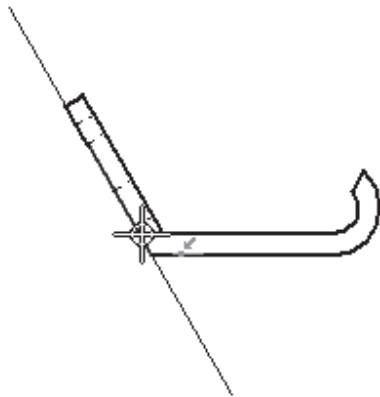
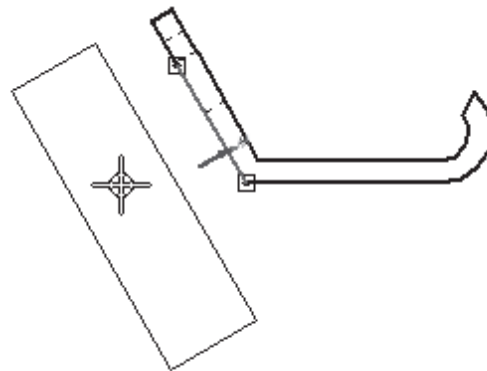
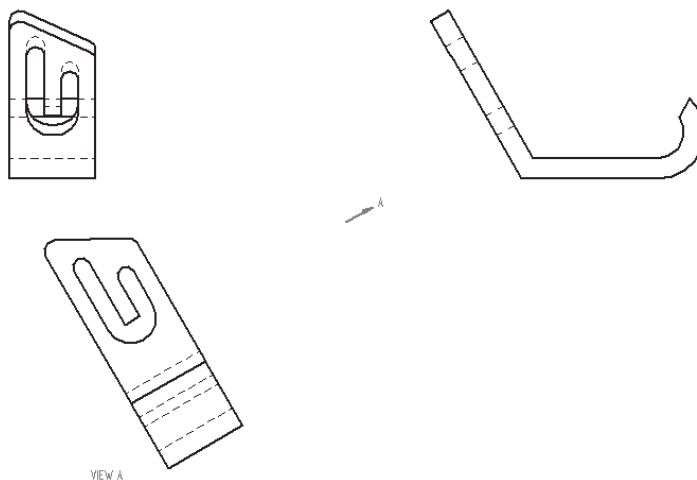

Figure 12-37 Edge to be selected
Figure 12-38 Moving the cursor to place the view
Figure 12-39 Drawing sheet after generating the auxiliary view
- Generate the drawing views, refer to Figures 12-37 and 12-39.
2. Select the edge, as shown in Figure 12-37. An imaginary fold line is formed and the auxiliary view is projected normal to this fold line. Move the cursor and to place the view, see Figure 12-38. After you place the view, the arrow pointing in the direction normal to the fold line is displayed, as shown in Figure 12-39.